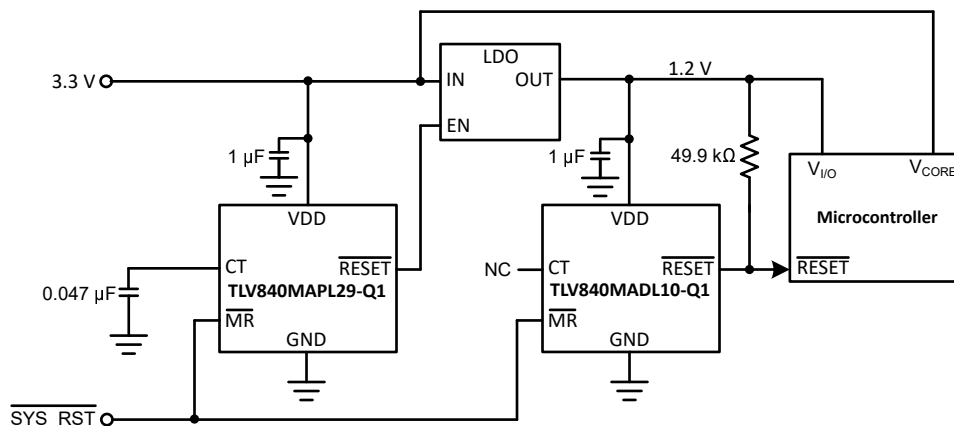

Figure 9-1. TLV840-Q1 Voltage Rail Monitor and Power-Up Sequencer Design Block Diagram
A typical application for the TLV840-Q1 is voltage rail monitoring and power-up sequencing as shown in Figure 9-1. The TLV840-Q1 can be used to monitor any rail above 0.9 V. In this design application, two TLV840-Q1 devices monitor two separate voltage rails and sequences the rails upon power-up. The TLV840MAPL29-Q1 is used to monitor the 3.3-V main power rail and the TLV840MADL10-Q1 is used to monitor the 1.2-V rail provided by the LDO for other system peripherals. The $\overline{\text{RESET}}$ output of the TLV840MAPL29-Q1 is connected to the enable (EN) input of the LDO. A reset event is initiated on either voltage supervisor when the VDD voltage is less than V_{IT} . For a system-wide reset event, both $\overline{\text{MR}}$ pins are tied to the $\overline{\text{SYS_RST}}$. For the purpose of this application, the design detail on $\overline{\text{MR}}$ are not covered. For more information on the function of $\overline{\text{MR}}$, please see Section 8.3.3